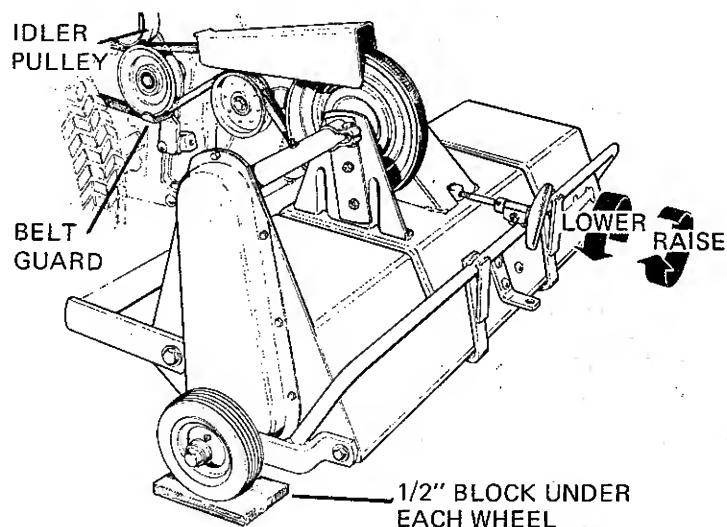

FIGURE 6
(See figure 6) Adjust the depth with the Revitalizer in the lowered position. The cutting depth of the revitalizer knives may be precisely adjusted by turning the T handle at the rear of the revitalizer clockwise to raise the knives and counter clockwise to lower them. For use in Spring and Fall as recommended, the knives should be set about 1/2 inch deep. The 1/2 inch depth may be set quite easily and accurately on a level surface by placing a 1/2 inch block under each of the revitalizer guide wheels. **BE SURE THE TRACTOR ENGINE IS STOPPED.** With the revitalizer clutch disengaged for ease of turning, alternately rotate the drive pulley on the revitalizer and turn the depth adjusting handle until the ends of the knives just hit the ground surface. The revitalizer should now be set at 1/2 inch cutting depth. The grooves in the ground may also be checked after operating a short distance to insure the correct depth setting.
4. (See figure 6) Remove the belt guard and idler pulley from the reverse idler assembly and replace the damaged belt with a new belt.